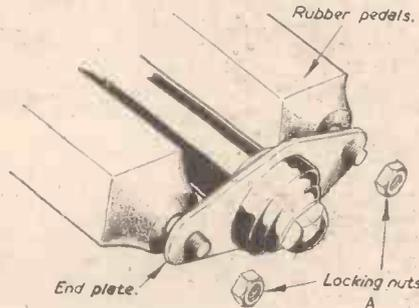

Fig. 3.—Removing pedal rubbers.
Worn pedal rubbers should be replaced before they are worn right down to the centre rods. Pedal rubbers are available in many standard sizes, and provided the correct size replacements are purchased no trouble should be experienced. Undo the nuts (A) in Fig. 3 and prise the end frame away from the cup. It will now be found a simple matter to remove pedal rubber and centre rod in one piece.